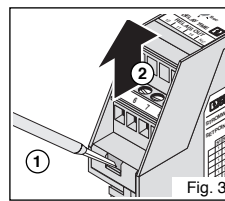

Fig. 3
Use a screwdriver to open the snap lock of the upper part of the housing on both sides (1) (Fig. 3).